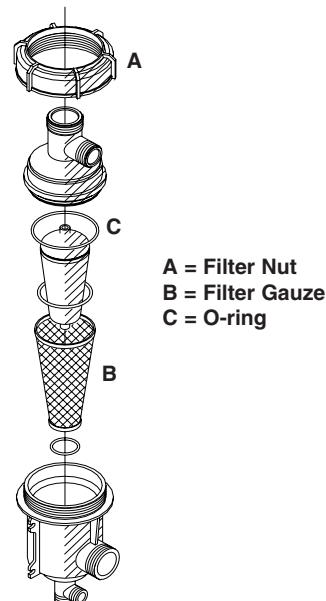

Fig 47
- 1 Unscrew the filter nut (**A** Fig 47) and open the filter.
- 2 Check the filter gauze (**B** Fig 47). Clean and check there are no residues on any part of the filter hoses.
- 3 Lubricate the O-ring (**C** Fig 47).